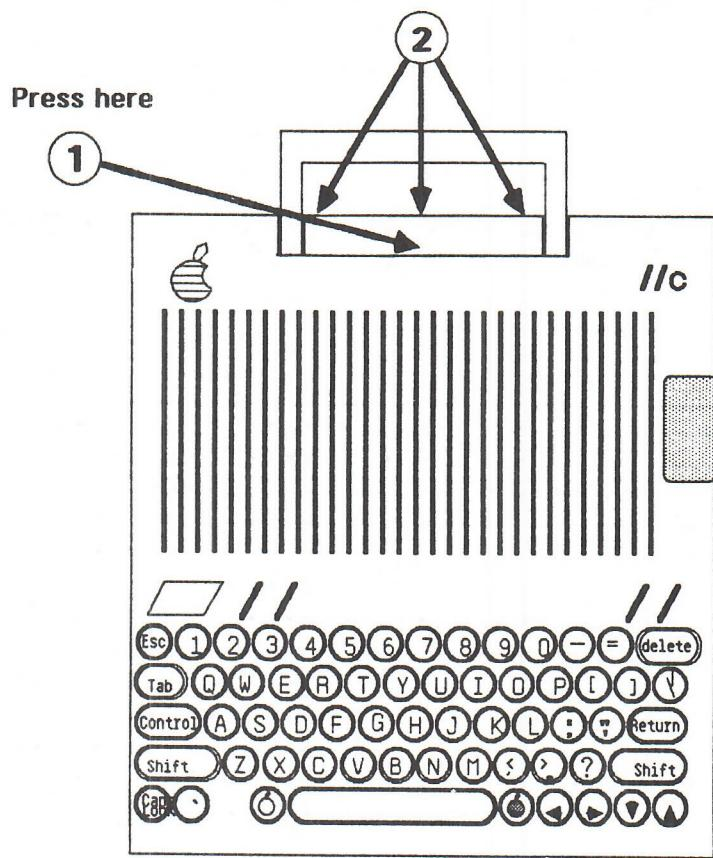
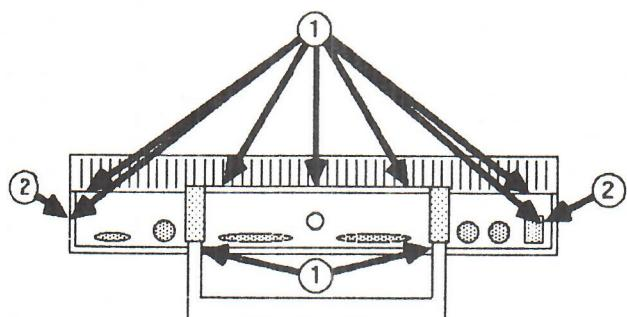
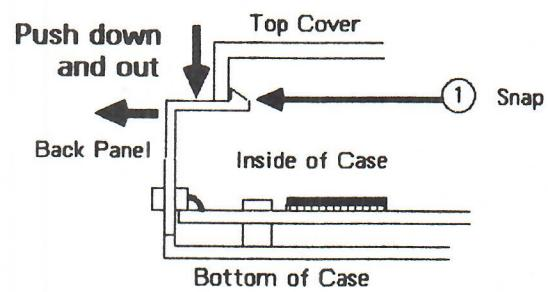

FIGURE 1
FIGURE 2
FIGURE 3
The IIc cover has been manufactured in two styles. The first is a two-piece design comprised of the **top cover** (see Figure 1) and the **back panel** (see Figure 2). The second is a single-piece with the top cover and back panel permanently attached to each other.
You must remove the back panel before you remove the top cover. The panel is held on by nine plastic snaps: two at the sides, two on the bottom edge, and five on the top edge. For the positions of the snaps, see Figure 2, #1. Figure 3 shows how the snaps hook onto the case. Follow the directions below to carefully remove the back panel. **NOTE:** Don't worry about breaking the panel: it is flexible. If one or two of the snaps break off, the panel is still usable.
2. Push the handle into carrying position, as in Figure 1.
- b) Grasp the back of the IIc so that your thumbs meet on the top center of the back panel, just above the video connector (see Figure 1, #1).
- c) Push down and out with your thumbs while gripping the bottom of the case with your fingers, so that the back panel flexes and the three central snaps come free (see Figure 1, #1 and #2).
- d) If necessary, use a small (jeweler's) flatblade screwdriver to CAREFULLY free the sides of the back panel at the two locations in Figure 2, #2.